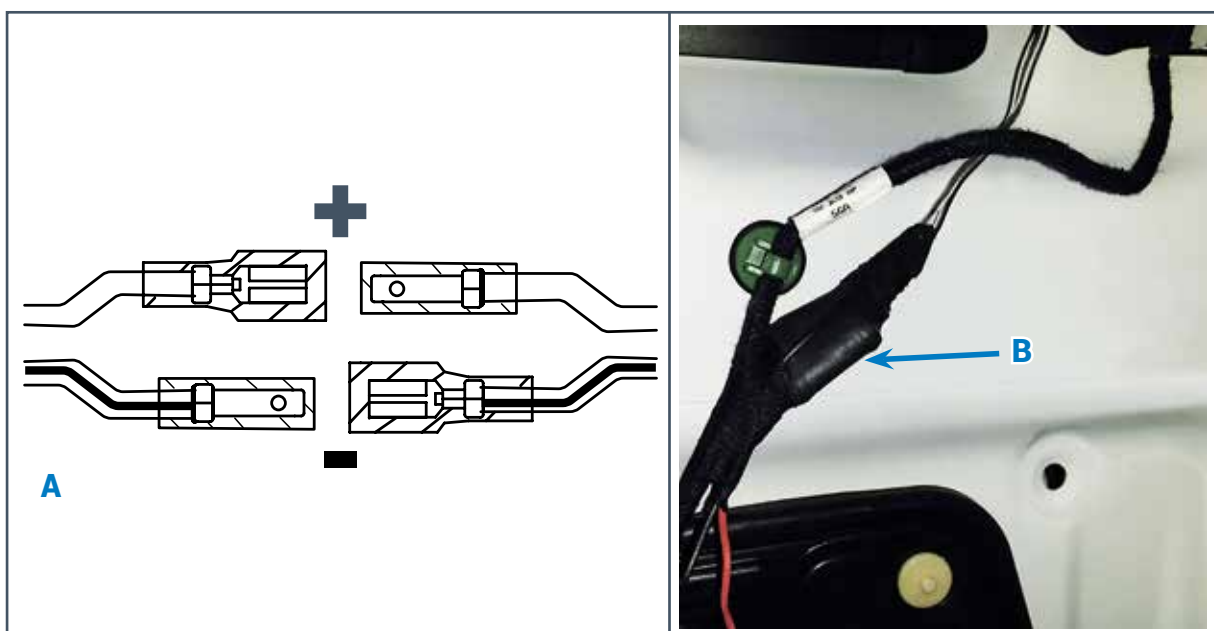

Fig. 32
11.3.3 Comply with the cable's polarity (Fig. 32 point A).
11.3.4 Position the crossover as shown in the photo (Fig. 32 point B).